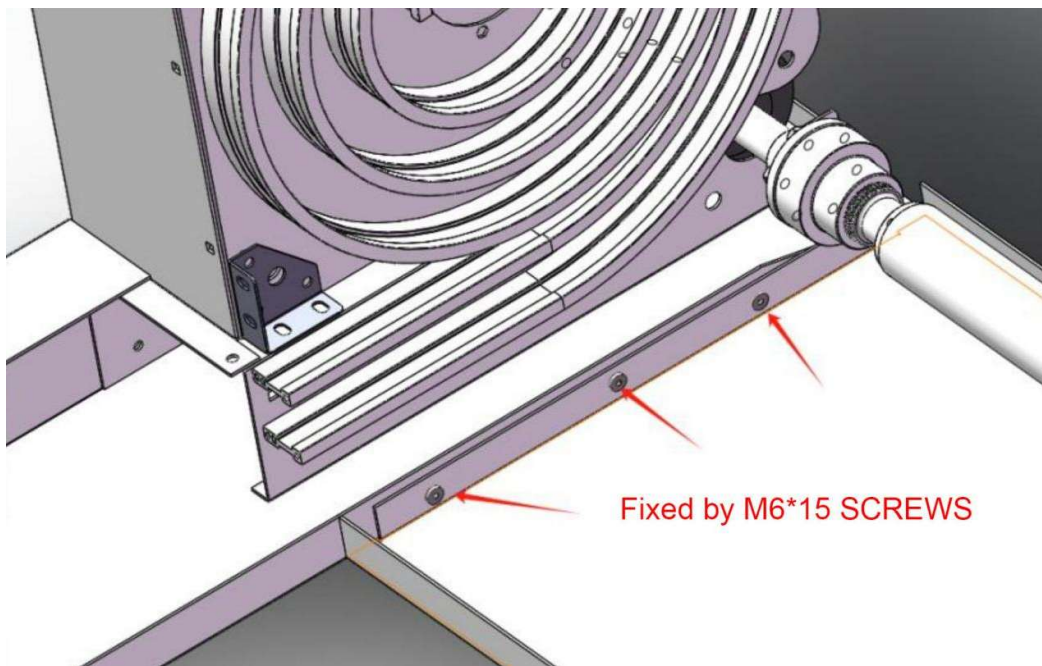

Figure 7(Secure with hexagonal stainless steel flat head bolts M6*15)
- ④ Install the door lintel, as shown in Figure 7;